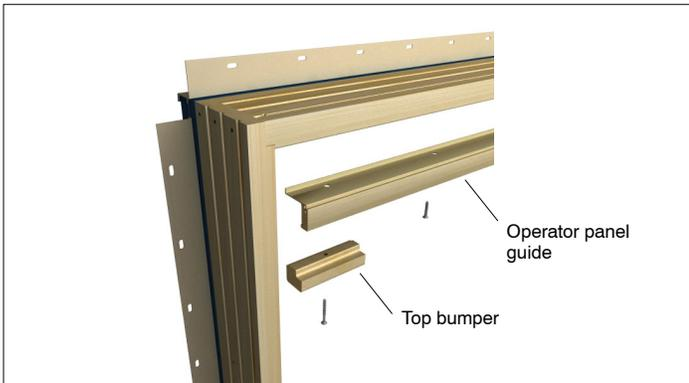

Figure 4
2. Remove #8x1" screws holding operator panel guide. See figure 4.
8. Install top bumpers with #8x1 1/2" pan head screws. (Package "F" if installing a KD door). See figure 4.